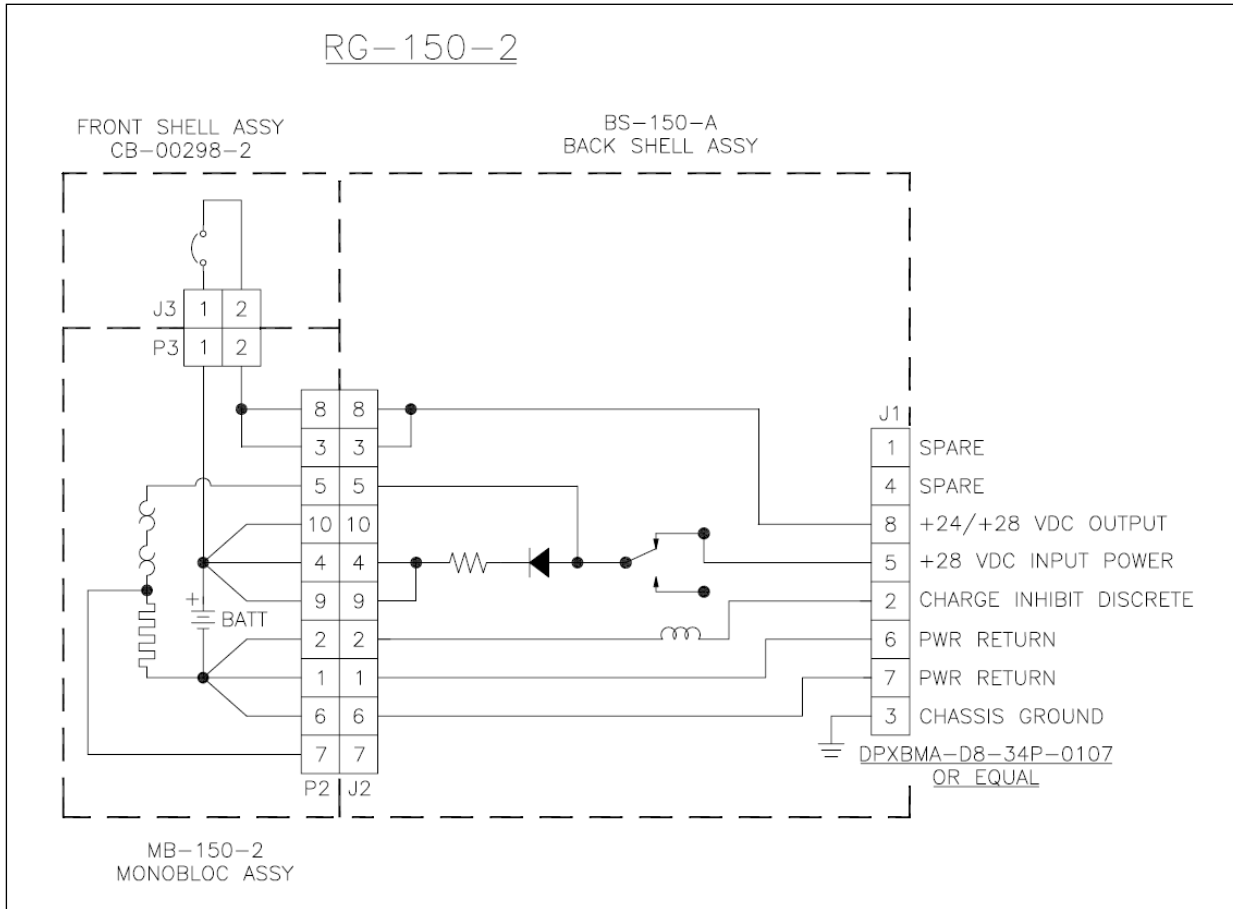

Figure 202. Schematic Diagram for RG-150-2 Battery
- B. The schematic diagram for the RG-150-2 battery is shown in Figure 202.